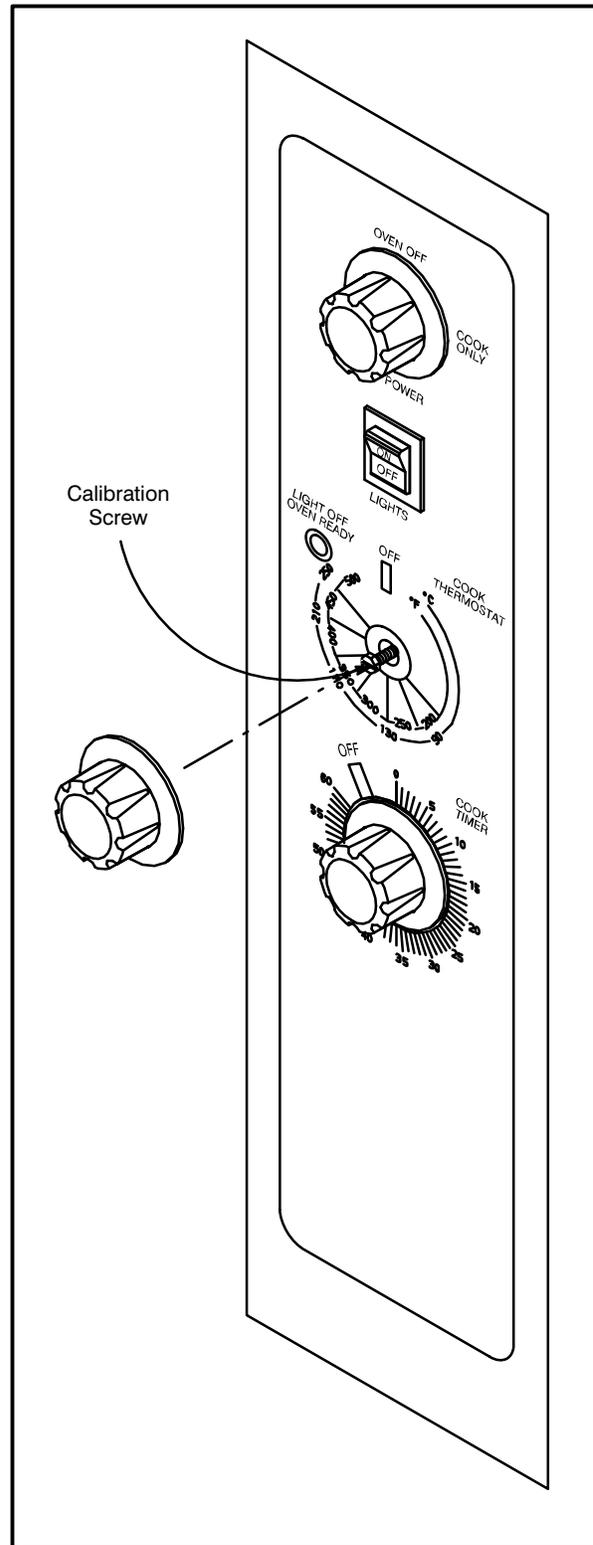

FIGURE 6
4. When the red indicator light on the control panel goes out, check the thermometer or pyrometer to determine oven temperature. If this reading is within 10°F (6°C) of the thermostat setting, do not change the thermostat. If this reading differs more than 10°F (6°C) from the thermostat setting recalibrate the thermostat as follows. See FIGURE 6 page 3-3.